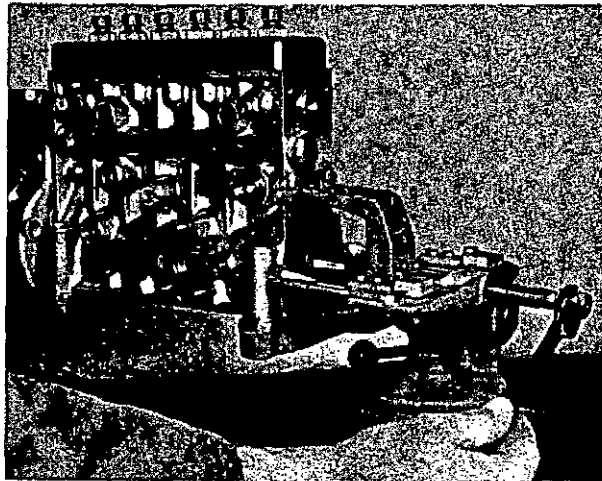

Fig. 9 Withdrawing drive end bearing plate
7. Turn the pump upright and remove the screws securing the drive end bearing plate. Referring to fig. 9, fit supporting bracket 1 682 329 011 and withdraw the bearing plate by using a claw extractor engaged in the recesses provided. The supporting bracket is necessary to avoid transferring load to the opposite end bearing via the camshaft. Remove the 'O' ring and shims from the end plate recess.